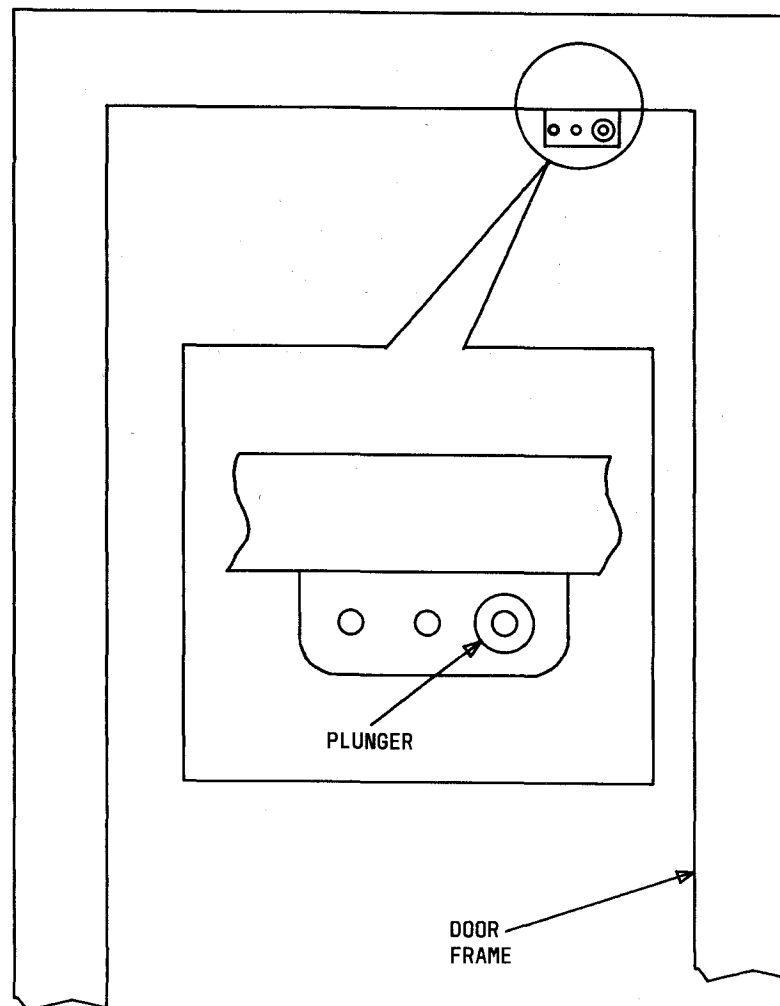

Fig. 6—Location of Door Alarm
7.01 A door switch is supplied with the mini-hut to provide a door alarm for the hut. When the door is opened, the switch contact closes and an alarm is activated in whichever system the switch is wired. The alarm may be retired with the door open by pulling the plunger on the door switch fully out past the detent. The switch is located as shown in Fig. 6.